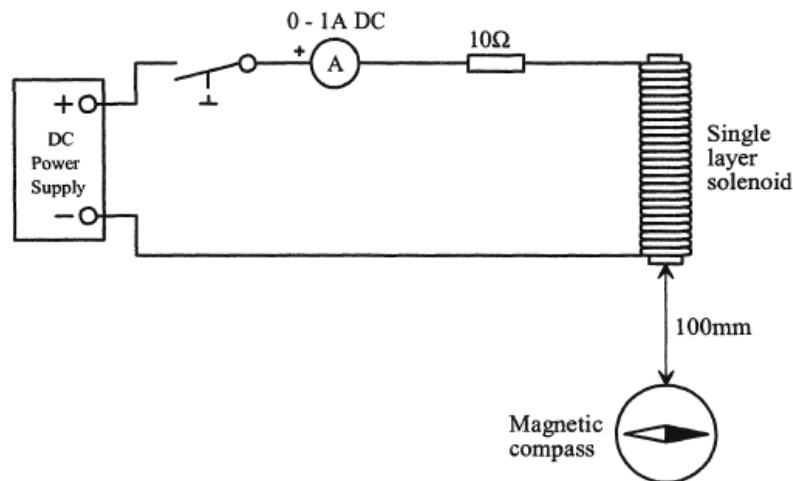

Figure 1
1. Connect the circuit as shown in Figure 1. **Note:** Be sure to connect the coil so the start of the coil is positive.